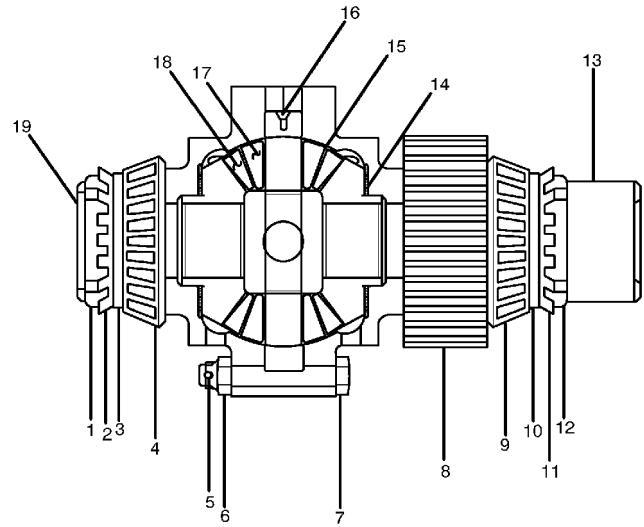

Figure 4. Bevel Gear Differential Assembly.
#### Legend for Figure 4.
- (1) Straighten tangs of locking washers (Figure 4, Items 2 and 11), remove pat locknuts (1 and 12), locking washers (2 and 11), and spacers (3 and 10) from bevel gear differential case (13 and 19).
- (2) With the use of a puller, remove bearing cones (Figure 4, Items 4 and 9) and gear (8) from bevel gear differential case (13 and 19).
- (3) Remove eight cotter pins (Figure 4, Item 5), castle nuts (6) and capscrews (7) from bevel gear differential case (13 and 19).
- (4) Remove two thrust washers (Figure 4, Item 14), two side gears (18), four pinion thrust washers (15), four pinions (17), and spider (16) from bevel gear differential case (13 and 19).